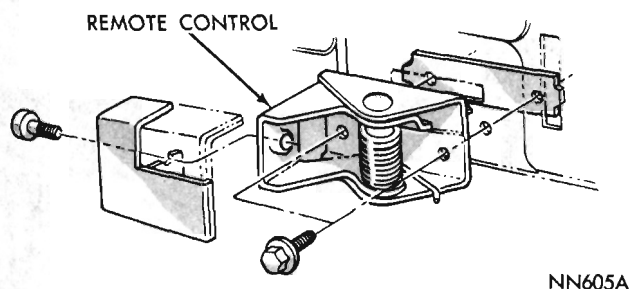

Fig. 14 - Remote Control Handle
The remote control handle (Fig. 14) is attached to the control unit with a screw at the rear inner end.
- (1) Raise door glass.
- (2) Remove remote control base to door panel screws (Fig. 14).
- (3) Remove link from remote control lever.
- (4) Remove control through large opening in door.